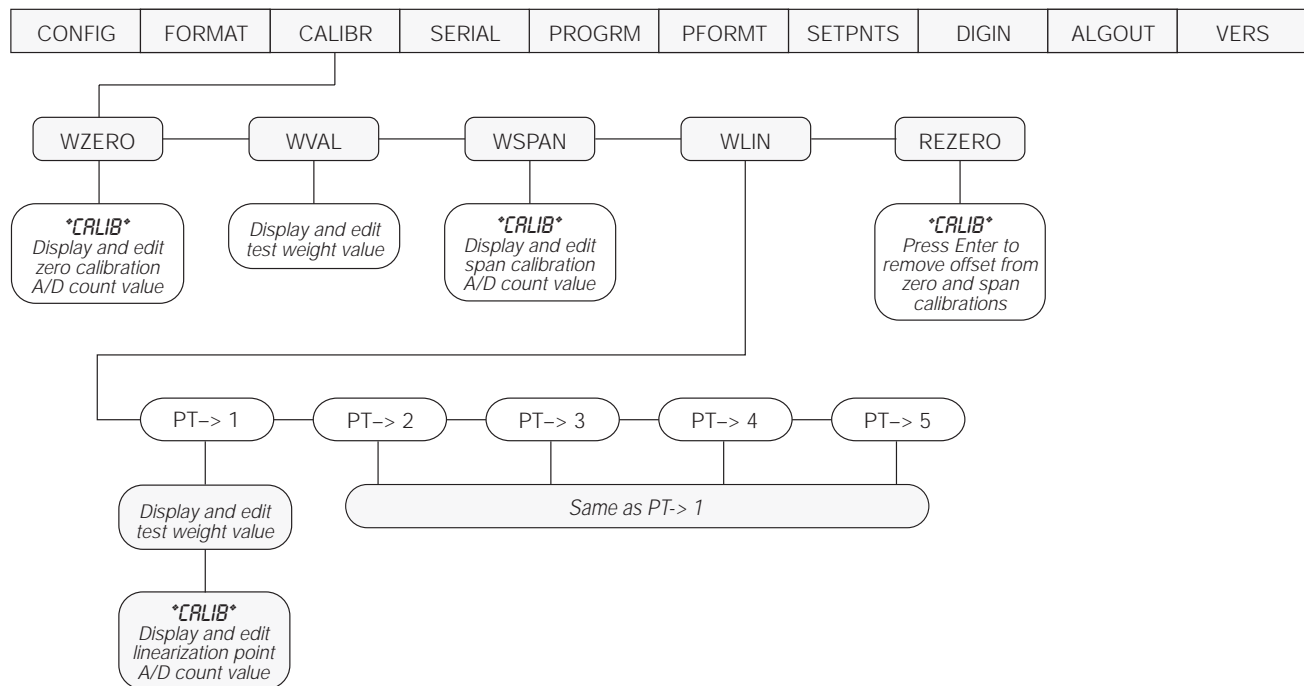

Figure 4-1. Calibration (CALIBR) Menu
2. Press \blacktriangleright until the display reads *CALIBR* (see Figure 4-1). Press ∇ to go to zero calibration (*WZERO*).